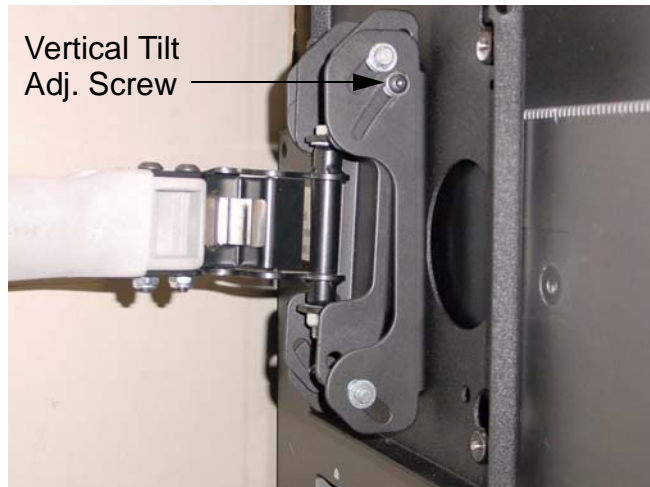

Figure 9. Vertical Tilt
1. Using 5/32" Allen wrench, slightly tighten or loosen two screws, one on each side, equally (see Figure 9).